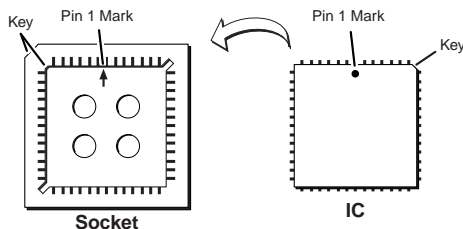

Figure 6-4 — Pin 1 mark
4. Note the key (angled corner) of the new firmware IC and the dot on the underside that indicates pin 1 (figure 6-4). Orient the IC to match the key and pin 1 (indicated by arrow) on the socket, and carefully press the IC into place.